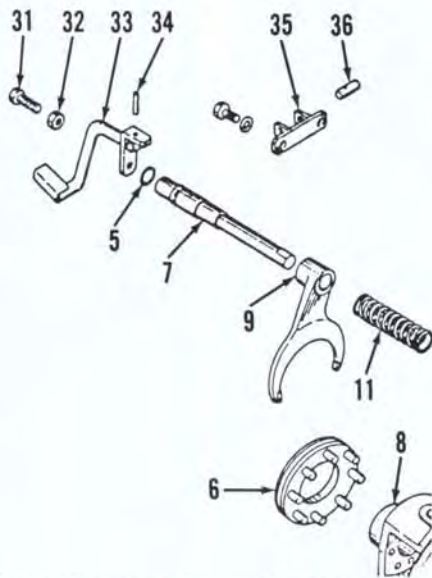

Fig. 116—Exploded view of differential lock mechanism used on Model L260. Refer to Fig. 115 for identification of parts except for the following.
131. ADJUSTMENT. No operating adjustment is required, but when unit is installed, adjusting screw (31—Fig. 116) must be turned in until spring load is removed from fork (9) and coupler (6).
132. REMOVE AND REINSTALL. To remove differential lock actuating shaft, fork and associated parts, first drain hydraulic system and remove seat and hydraulic system reservoir (rockshaft housing). Unbolt and remove actuating pedal and mounting bracket as a unit. Grasp spring (11—Fig. 116) with gloved hand or a rag, then withdraw rail (7) out right side of housing while lifting spring and fork out top opening. Differential lock coupler (6) is mounted on differential case and can only be removed after differential unit is removed as outlined in paragraph 123.